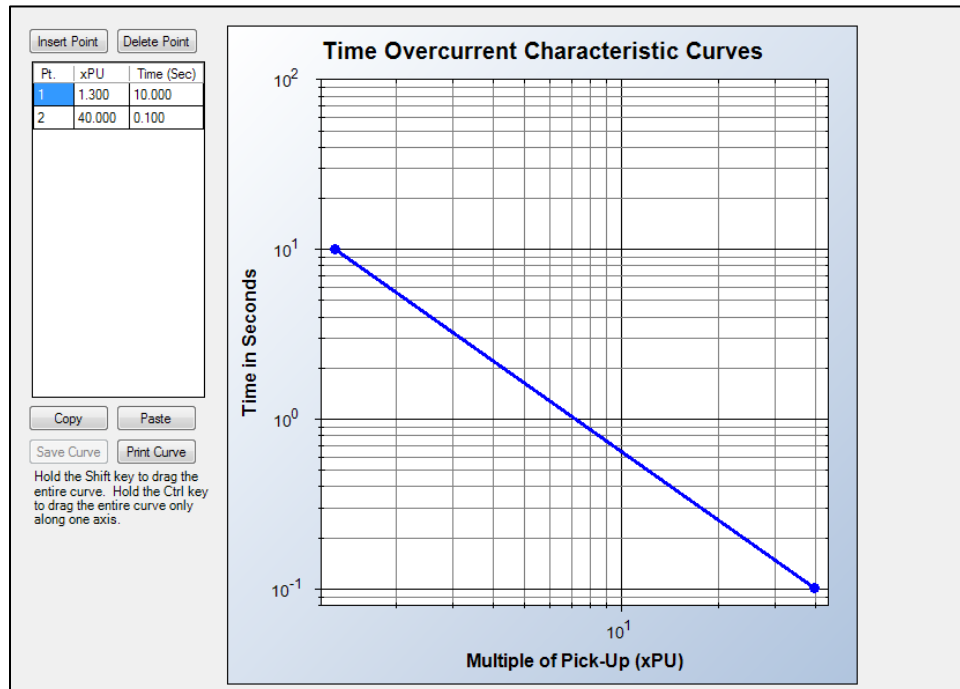

Figure 18-1. Inverse Overcurrent Table Curve
*BESTCOMSPPlus* is used to set the 51 element Table Curves (T1, T2, T3, and T4). Using the Settings Explorer within *BESTCOMSPPlus*, open the Protection, Current, Table Curve (1, 2, 3, or 4) tree branch and select the table curve to be modified. Refer to Figure 18-1. A minimum of 2 and maximum of 40 points can be entered for any one T curve. When you are satisfied with the values chosen, select Save Curve. Use the Settings Explorer to browse to the 51-x element you wish to program and use the drop-down menu under Curve to select T1, T2, T3, or T4.